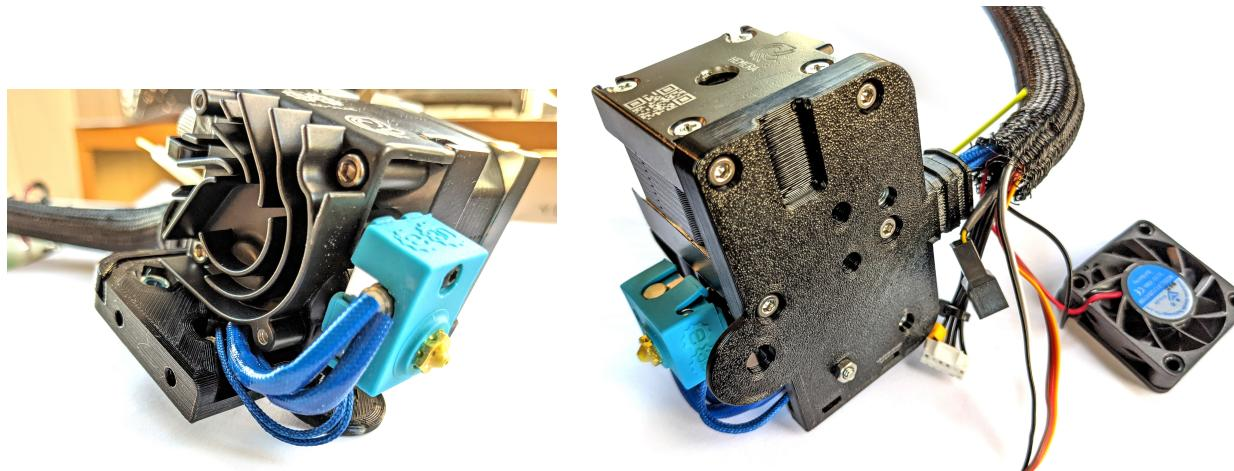

Figure 1.7: Route the thermister and heater cables into the cable channel in the mounting plate, then flip over and screw in the Hemera
3. With the mounting plate face up, route the thermister wire and heater wires into the mounting channel and place the Hemera roughly in place on the plate, as shown in Fig. 1.7. *This step is challenging, so take your time and make sure no wires are accidentally pinched.*